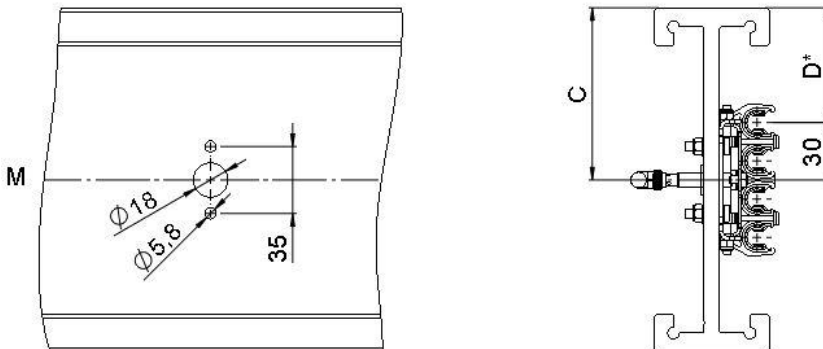
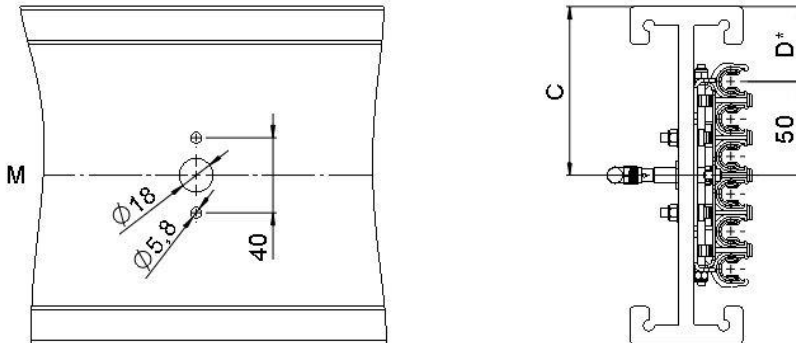

Fig. 5: Example: Bore hole pattern sliding contact sensor unit (4-poles)
Fig. 6: Example: Bore hole pattern sliding contact sensor unit (6-poles)
The dimensions of the **hole for the sensor and the fixing holes** are listed in chapter 6.3.1 in Fig. 5. It is recommended to create a drawing in advance, which can be provided for example in the context of a **project documentation**.
The position of the holes depends on the center of all conductor rails (example: with 6 poles, the conductor rail center M lies between the 3rd and 4th pole see Fig. 6). In this example, the 6 poles were placed in the center of the EMS-profile.
- Drill holes for fixing screws (\varnothing 5.8 mm) and holes for tube (\varnothing 18 mm) into the EMS-profile (see Fig. 5 and Fig. 6). The drilling distance depends on the number of poles (4-pole or 6-pole). The center of the conductor rail M is an individual system dimension.